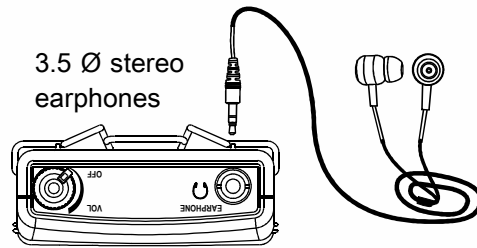

Fig. 4
- (A) Insert any 3.5 Ø stereo earphones here ❶ or connect to the audio input of other audio equipment, Fig. 4.